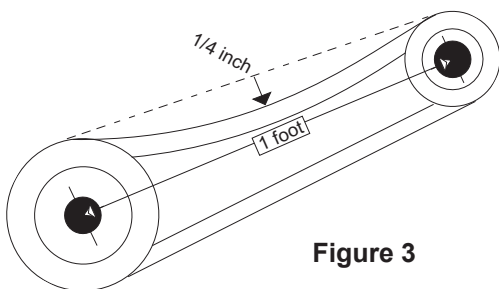

Figure 3
2. Adjust the motor plate until proper tension is reached. For proper tension, a deflection of approximately 1/4" per foot of center distance should be obtained by firmly pressing the belt. Refer to *Figure 3*.